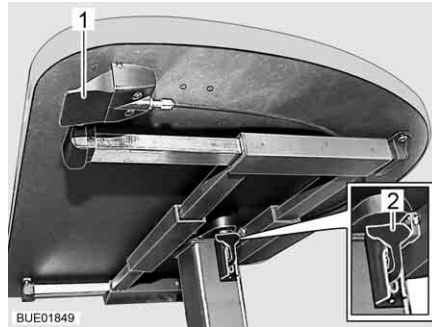

Fig. 113 Adjustment of lift-off table
- Fold down the catch lever (Fig. 113,2).
- Press up the lever (Fig. 113,1) under the table top. The lifting mechanism in the table leg is unlocked.
- Press up the lever (Fig. 113,1) under the table top. The table top moves automatically upwards to the limit stop.